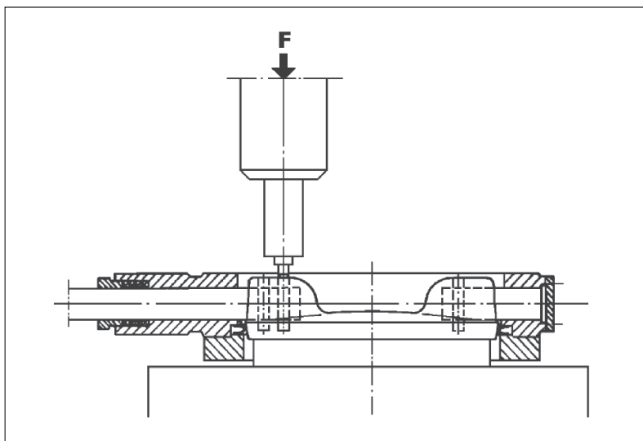

Fig. 14 Pressing the pins
- Support the disc well in a horizontal position during mounting of the pins. Push the new pins into the holes and press them in a press to final form (see Fig. 14). Use slightly larger pressing tool than the pin diameter. See Table 4 for forces.